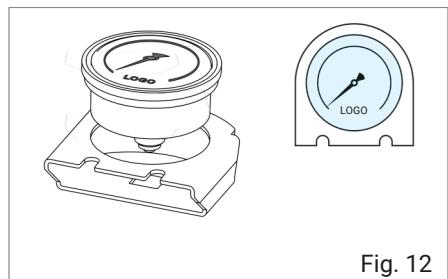

Fig. 12
Make sure that you insert the manometer in the correct way. The manometer logo must be on the straight side of the manometer holder (Fig. 12). Now place the new protective glass (33) on the housing ring. The smaller diameter of the protective glass must be at the top. Continue with step 9 - Mounting the manometer.